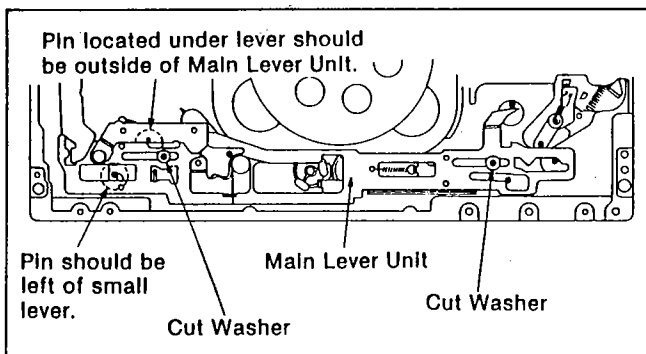

Figure M43
1. Install the Main Lever Unit so that the pins which are in the correct position as shown in Figure M43. The Main Lever Unit should seat perfectly without having to apply outside pressure, insert the cut washers.